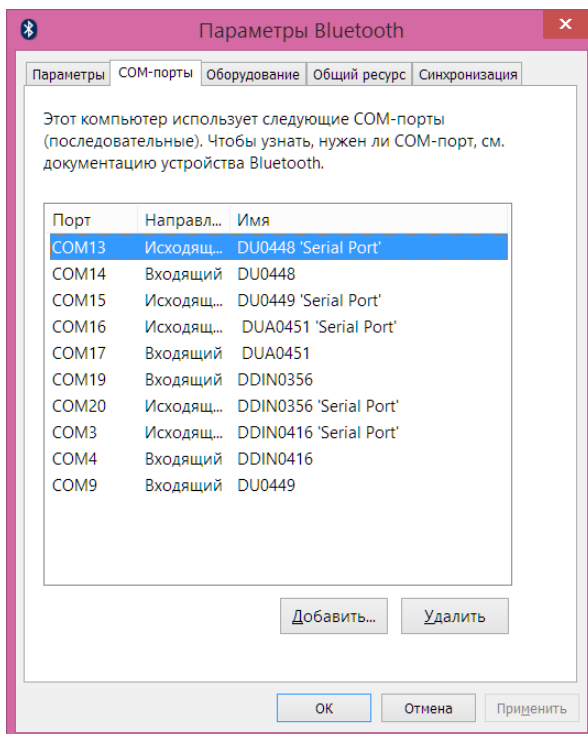

Figure 2. Bluetooth settings. Assigned Bluetooth COM ports to devices.
- in the appeared Bluetooth Options window on the COM Ports tab, see which outgoing port is assigned to the connected device (see Figure 2).
In figure 2, the outgoing port COM20 is assigned to DDIN No. 356.